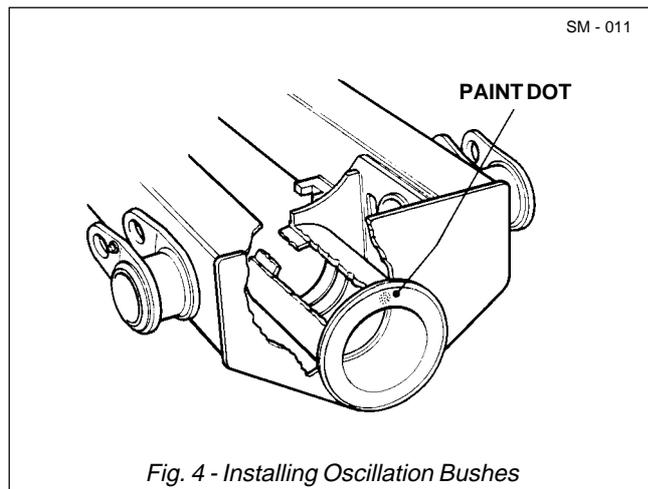

Fig. 4 - Installing Oscillation Bushes
2. Apply Loctite (3) and Loc Quick Primer (4) and align new bushes (2) to housing with grease holes aligned vertically and identification 'PAINT DOT' at Top Dead Centre. Refer to Fig. 4. Drift bushes (2) into housing using hammer with soft packing for protection.
3. Install plug (25) in filler/level hole on pivot assembly (1). Install gasket (5) and cover plate (6) on side of oscillation hub and secure with bolts (7) and washers (20).
4. Install plug (25) in cavity drain port on underside of oscillation hub.
5. Install plugs (28) into oscillation bearing grease ports.
6. Lightly coat 'V' ring (10) and machined surfaces of pivot with EMS19014 grease (26) and, install 'V' ring (10), with lip towards rear, on front of oscillation hub.
7. Using suitable lifting equipment, and taking care to prevent damaging bushes (2) or pivot threads, install pivot assembly (1) into rear frame.
8. Thread thrust nut (11) on pivot assembly (1) and tighten as follows:
- a) Restrain pivot assembly (1) to prevent it oscillating,